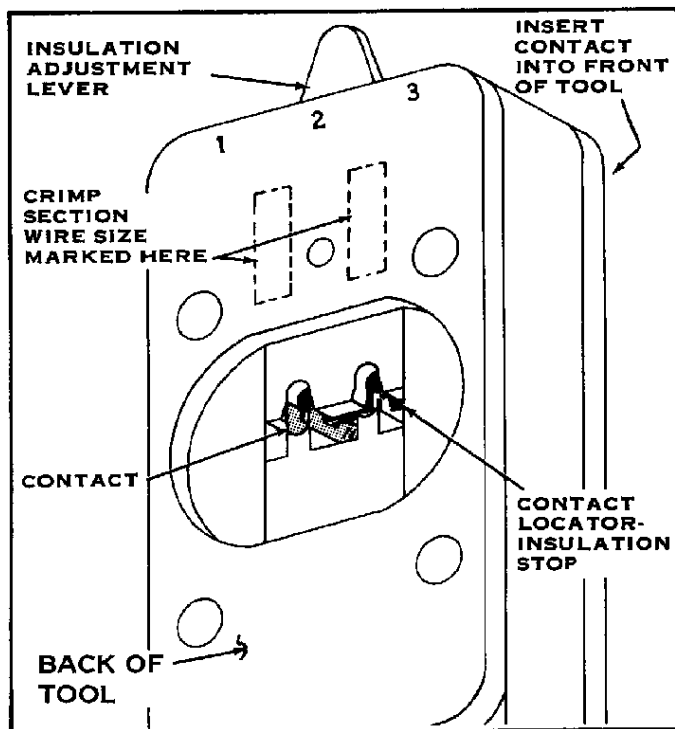

FIGURE I-3
1. Hold the tool so the BACK of it is facing you. See Figure I-3.
3. Looking straight into the crimping dies from the BACK of the tool, insert a contact (Insulation Barrel first) into the FRONT of the tool. See Figure I-3. *Make certain you use the Crimp Section specified for the Wire Size you are using.*